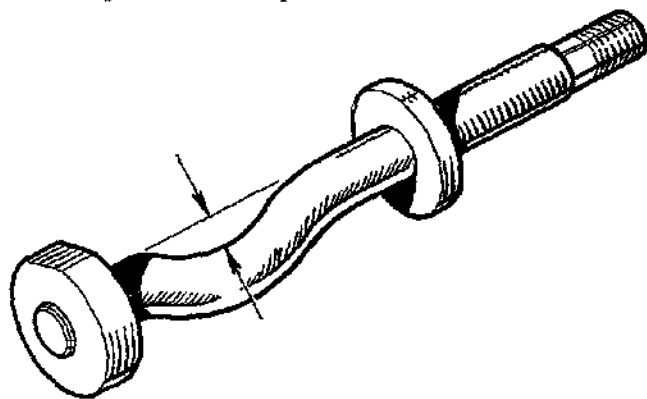

Fig. G.7
(28) Refitting is a reversal of the removing procedure given in Section K.2. ●
(29) When fitting a replacement drive shaft assembly (of the type fitted with a rubber boot on the sliding joint) to the left-hand side of an early model, it will also be necessary to fit a modified lower arm inner pivot pin to ensure sufficient clearance for the rubber boot. Reference should be made to Fig. G.7 for the dimension of the modified pivot pin.